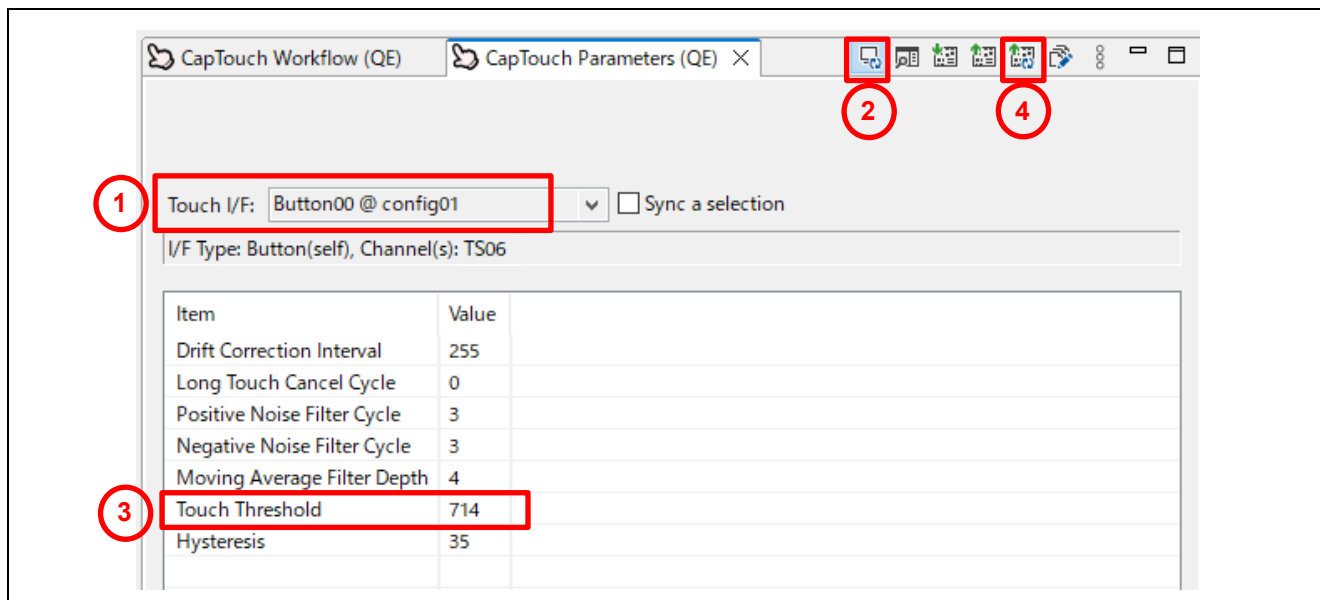

Figure 4-3 Sensitivity adjustment window using the monitoring function
The settings for steps 1 to 4 above are performed in steps ① to ④ in Figure 4-3